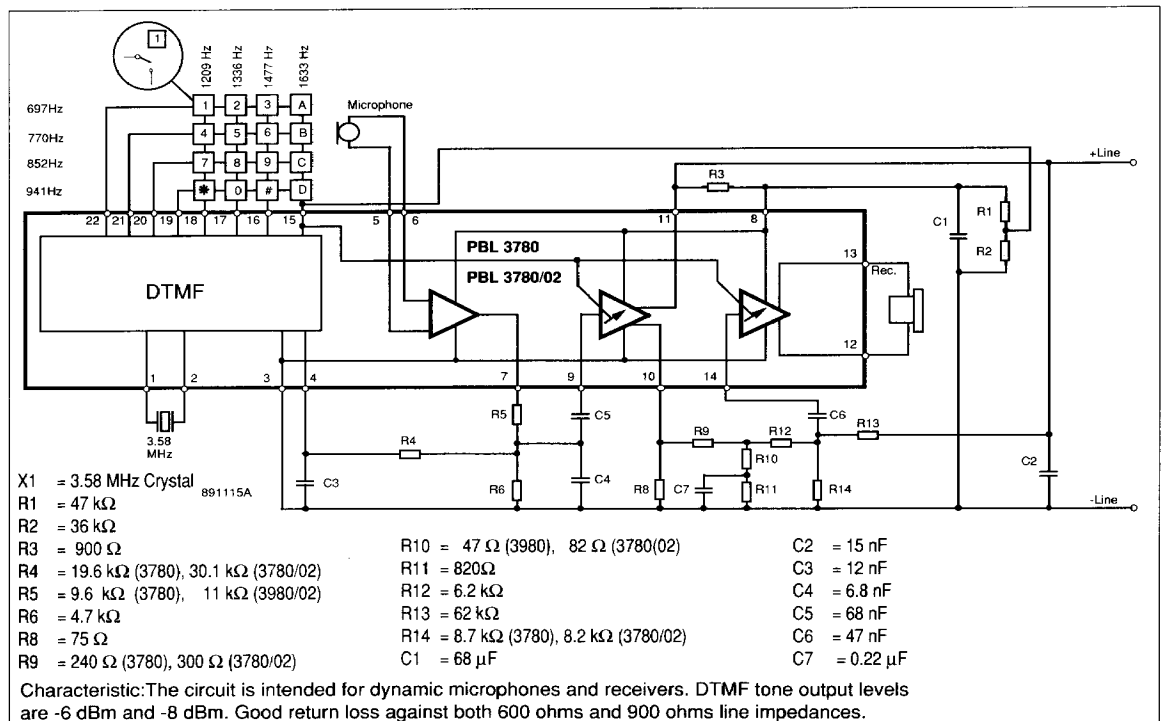

Figure 10. Telephone design for 48V, 2x400Ω battery feeding systems.
Using the PBL 3780, PBL 3780/02 in a telephone design makes it possible to adjust the basic transmission parameters almost independently of each other. DC-characteristics, gain and frequency responses are determined simply by selecting the values of a few external components. Figure 10 shows a typical design. Only a polarity guard diode bridge and a zenar diode need to be added to form a complete telephone with DTMF dialling. The component values chosen suit a feeding system of 48 V, 2 x 400 ohms.
Since the transmitter amplifier of PBL 3780, PBL 3780/02 has a high-impedance output stage for speech signals, the impedance seen from the line is set directly by R3, C1 and C2. C1 is a decoupling capacitor in the DC-feedback loop of the regulator and should be large enough to prevent distortion at low frequencies. When power is applied, C1 is charged rapidly to give a fast turn-on. If C1 is large, C2 and R3 effectively determines the impedance to the line. C2 also suppresses radio signals that may be picked up by the line and cause interference. C1 has the additional function of stabilizing the DC-voltage at pin 8, which is the supply terminal for most of the circuitry inside PBL 3780, PBL 3780/02. The suggested values of R3, C1 and C2 in figure 10, gives a good return loss against line impedance of both 600 ohms and 900 ohms in parallel with 30 nF.
R5, R6 and R4 form a voltage divider which, once R8 is set, will determine the overall gain in the transmit path. The values in figure 10 give a typical transmitting gain of 43 to 48 dB over the regulation range. Once R5, R6 and R8
The levels from the DTMF generator can be adjusted by R4. There is a 2 dB fixed ratio between the tones from the high and low group. The amplitudes are stabilized against variations in temperature and line current. To achieve line current independent levels, the gain regulation in the transmit amplifier is switched off during dialling. C3 (10-12 nF) and the output impedance of the DTMF (6.66 kohms) form a low-pass filter that reduces harmonic distortion. A capacitor C4 needs to be added to give further rejection of harmonics to meet the CEPT requirements. Using the values of R4 and R8 given in figure 10 the amplitude of the high and low group tones will be -6dBm and -8dBm respectively.
1. The sidetone network consist of R9, R10, R11 and C7. R9 should not be too small compared with R8. The actual balancing network consisting of R10, R11 and C7, simulates a first order approximation of the drive and line impedances. The values given in figure 10 correspond to a compromise between a 0.4 mm and 0.5 mm cable used in a typical local network.
3. R14 is set to give the desired receiving gain. The values of R12, R13 and R14 given in figure 10 is a good starting point in most cases.